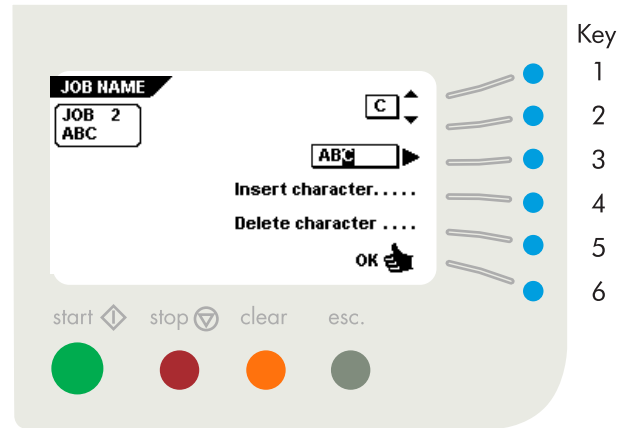

Fig. 48
- select the required feeder (key 2 or 3).
- set the double feed control on or off (key 4).
- confirm the settings by pressing “OK” (key 6) which will get you back to the “job settings” menu.
After pressing key 5 in the “job settings” menu the display shows the screen as shown in fig. 48. The following choices are available:
- change the selected character (key 1 or 2).
- select the character position (key 3).
- insert the selected character (key 4).
- delete the selected character (key 5).